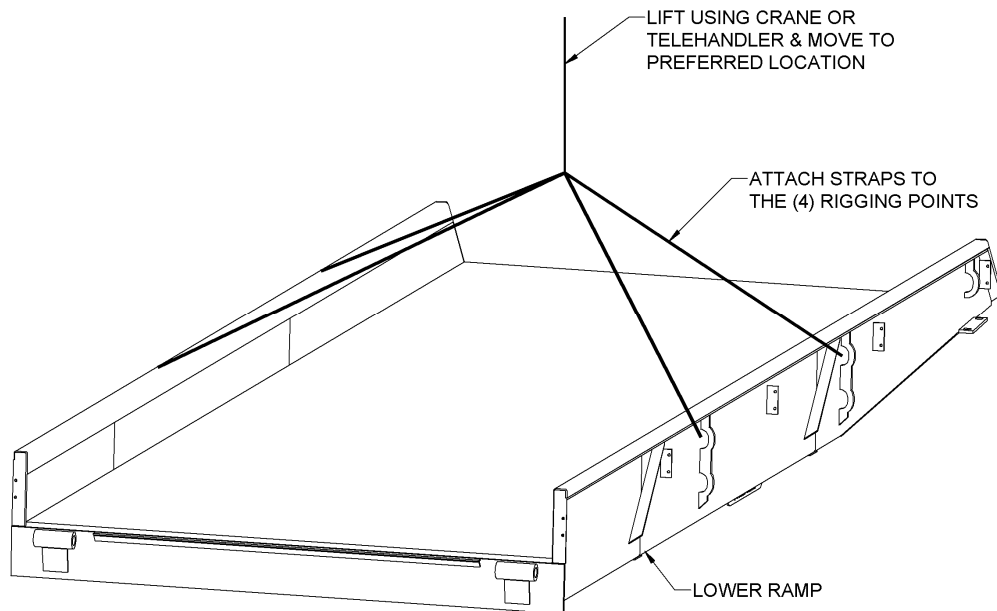

Figure 4a: Moving the Lower Ramp with Crane/Telescopic Handler
- a. **CRANE OR TELESCOPIC HANDLER (PREFERRED):** Attach straps/chains to the four lift points located on the sides of the ramp (Figure 4a). Slowly lift the ramp from the ground, move it to the desired location, and carefully lower on to the upper ramp.